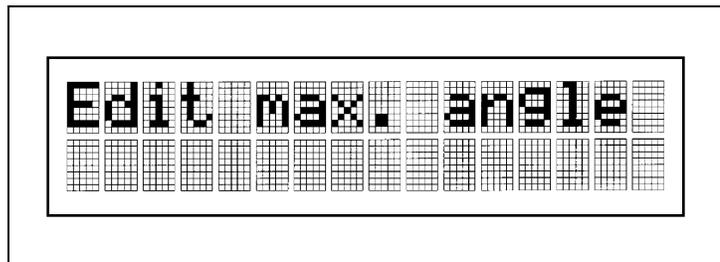

Figure 3-6: RECALL Data Display
2. Press MANUAL CLEAR. LCD display shows "CLEAR" and the present (left) and total (right) memory locations on the upper line, as shown in *Figure 3-6*.
3. Press MANUAL CLEAR. The LCD display shows "CLEAR" and the present (left) and total (right) memory locations on the upper line, as shown in *Figure 3-6*.
- LCD display shows "CLEAR" and the present (left) and total (right) memory locations on the upper line, as shown in *Figure 3-6*.